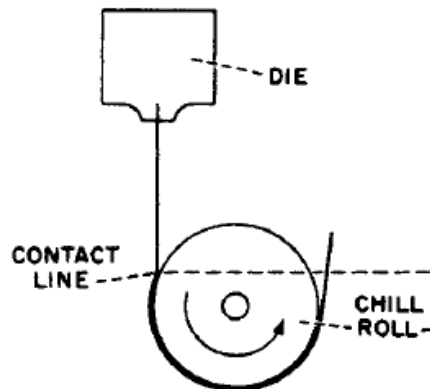

Figure 2: Example of a chill roll system for flat film extrusion setup.
- [b] Figure 2 depicts schematic representation of a flat-film extrusion setup. Using the diagram, identify modes of heat transfer activities that occurred in this kind of shaping procedure.